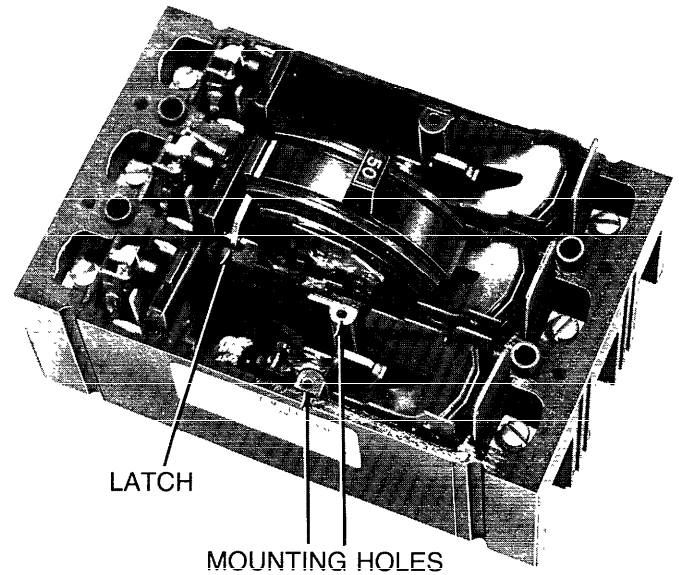

Figure 3
3. Note position of accessory mounting holes. (Figure 3).